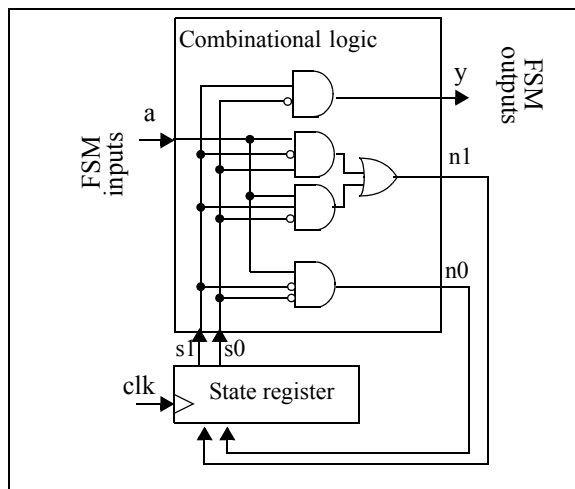

Figure 3.113
3.48 Reverse engineer the behavior of the sequential circuit shown in Figure 3.113.